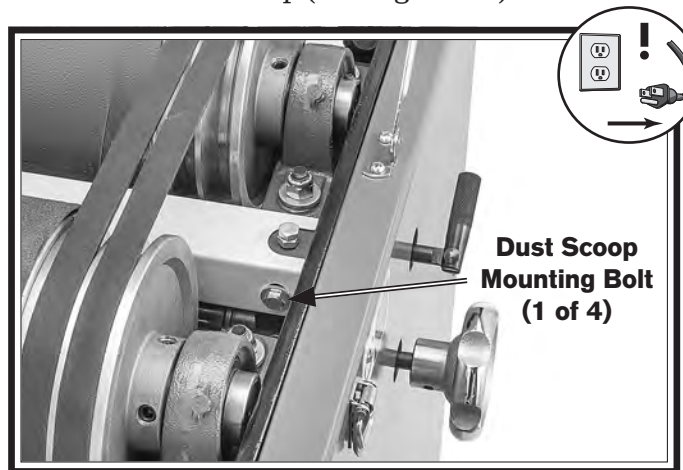

Figure 48. Location of dust scoop mounting bolts.
2. Place (2) gauge blocks of equal height under rear sanding drum and dust scoop. Raise table until gauge blocks just touch sanding drum.
3. Loosen dust scoop mounting bolts located at each end of scoop (see **Figure 48**).